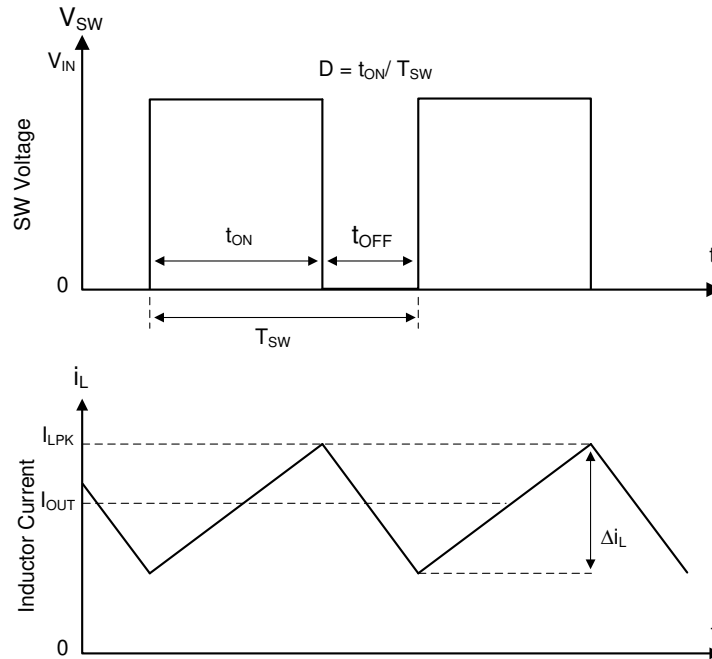

图 8-1. SW Node and Inductor Current Waveforms in Continuous Conduction Mode (CCM)
The following operating description of the LMR51430 refers to セクション 8.2 and to the waveforms in 図 8-1. The LMR51430 is a step-down synchronous buck converter with integrated high-side (HS) and low-side (LS) switches (synchronous rectifier). The LMR51430 supplies a regulated output voltage by turning on the high-side and low-side NMOS switches with controlled duty cycle. During the high-side switch on time, the SW pin voltage swings up to approximately V_{IN} , and the inductor current, i_L , increases with a linear slope of $(V_{IN} - V_{OUT}) / L$. When the high-side switch is turned off by the control logic, the low-side switch is turned on after an anti-shoot-through dead time. Inductor current discharges through the low-side switch with a slope of $-V_{OUT} / L$. The control parameter of a buck converter is defined as: